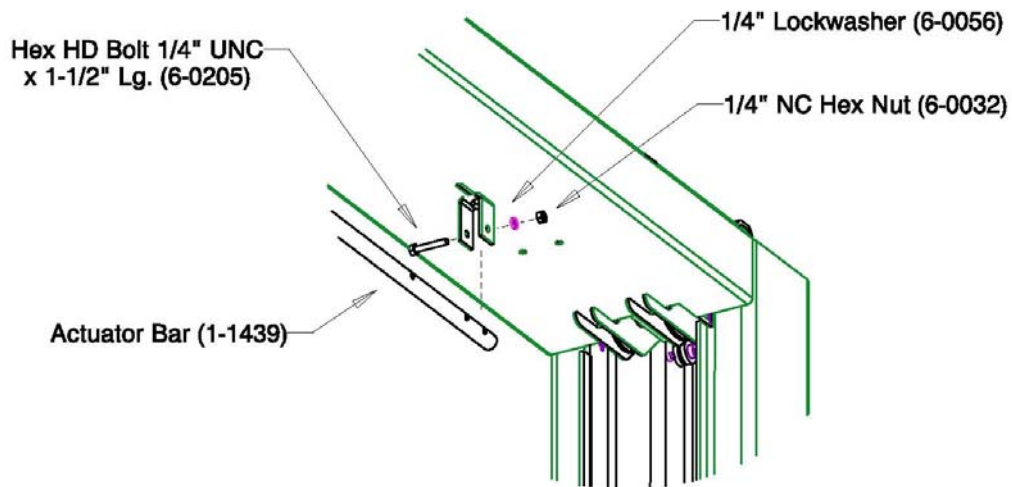

Figure 8: Actuator Bar Installation
Note: The safety shut off will disconnect the power to the power pack when an obstruction touches the padded bar or the carriages reach their maximum height. The safety shut off switch is factory pre-wired. Refer to Figure 8.
2. Attach the Actuator Bar to the Actuator Mounting Bracket using one (1) 1/4" NC x 1 1/2" lg. hex head bolt, one (1) 1/4" lockwasher, and one (1) 1/4" NC hex nut. Orient the Actuator Bar so that the last hole (out of the set of 3) is used when mounting. (**Figure 8**)